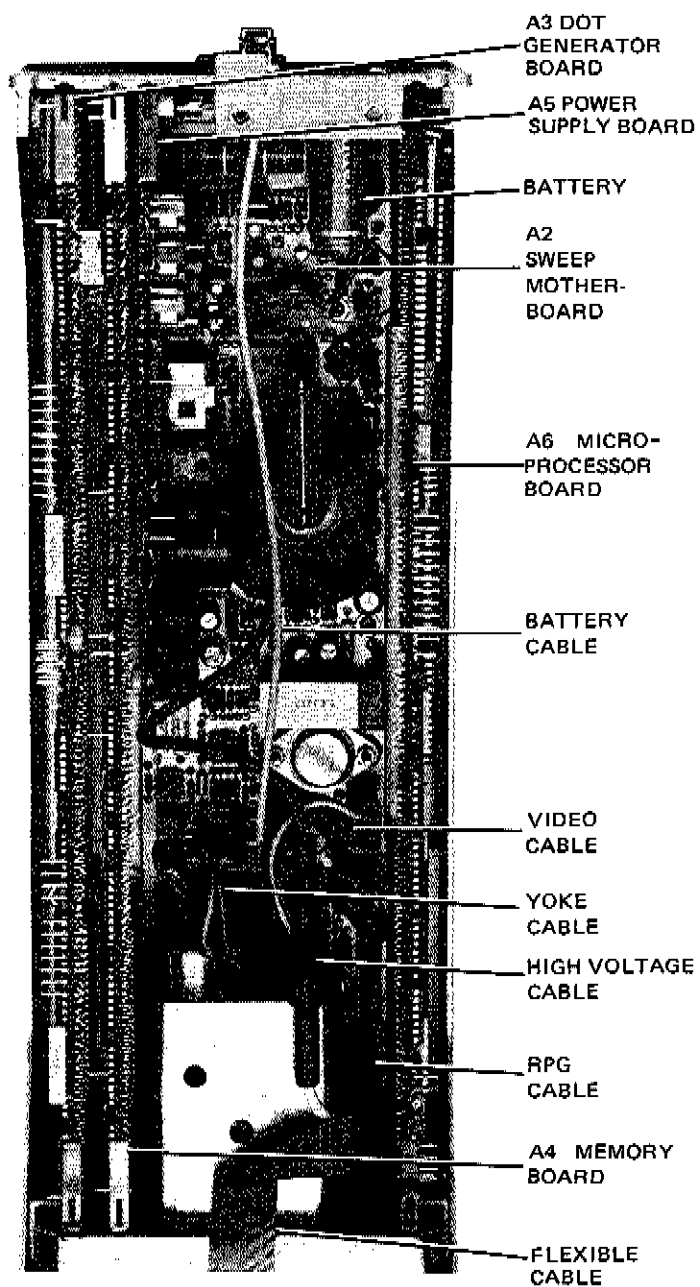

Figure 4. Assembly Locations
2. Using tabs, lift out the three digital boards and the one power supply board. See Figure 4.
2. Unplug the following cables (see Figure 4).
- c. Adjust A2R87 - HPOS and A2L4 -WIDTH (refer to Figure 10 for location) until all the characters for the soft key labels are completely visible on screen (refer to Figure 4).
- b. Adjust A2R41 - VPOS and A243 - HEIGHT (refer to Figure 10 for location) until the soft key labels are centered on each soft key (refer to Figure 4).